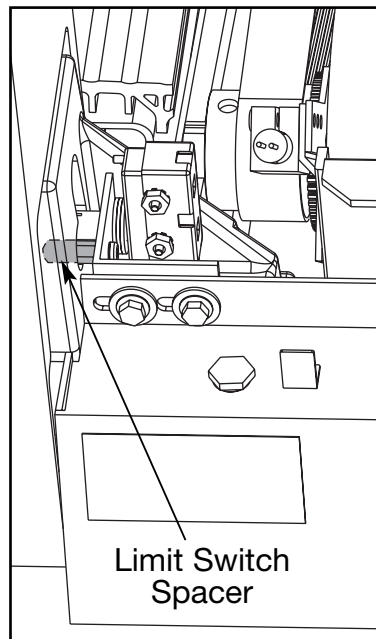

Figure 13
- B. Place the elevation limit switch assemblies in position. Be sure the gold limit switch spacer is flush with the side wall of the elevation gear rack for correct gap width. See Figure 13.